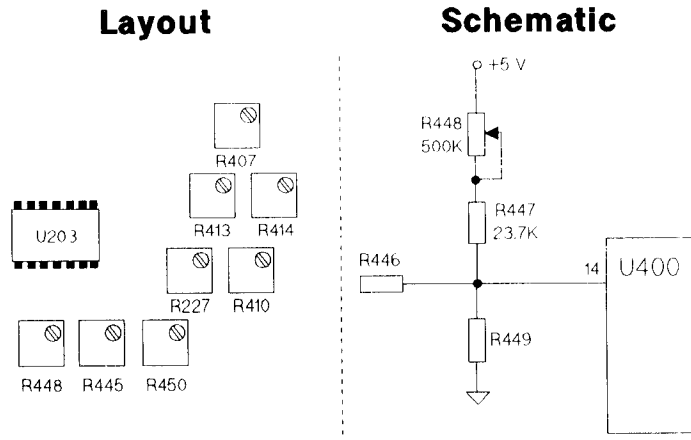

Figure B-1. R448
2. Figure B-1 shows R448's location in the circuit and on the main board. Modify Figure 9-8, Figure 10.4-9 and Figure 10.4-4 accordingly.